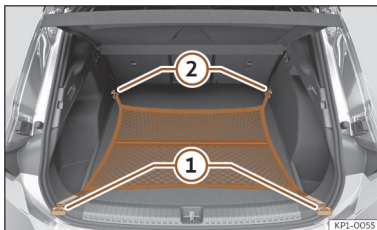

Fig. 191 In the boot: net bag hooked up at floor level.
- Secure the net hooks to the fastening rings >>> **Fig. 191** ① and ② >>> ⚠. The bag zip should be facing upwards.